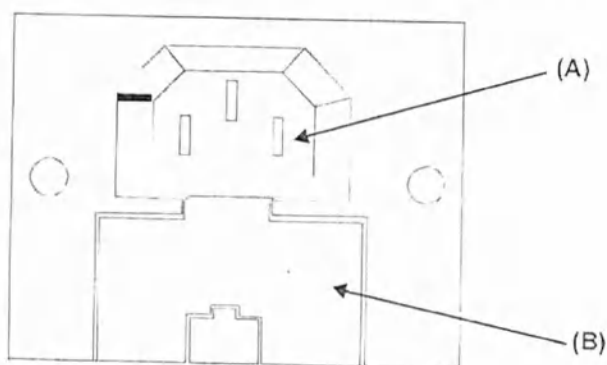

Fig. 28 - Fuses location
The fuses - Fig. 28, (B) - are located inside the mains cup socket - Fig. 28, (A) -.